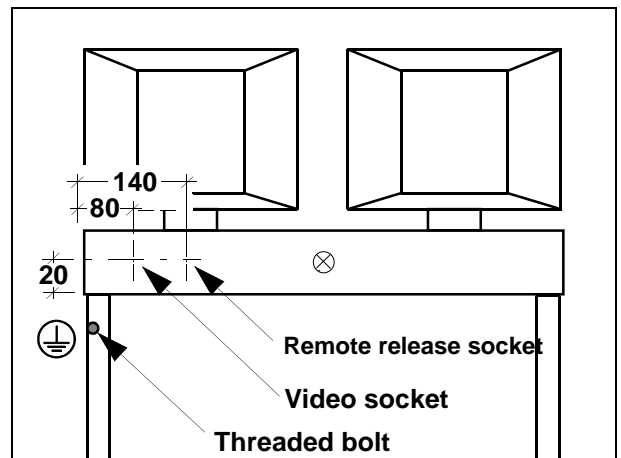
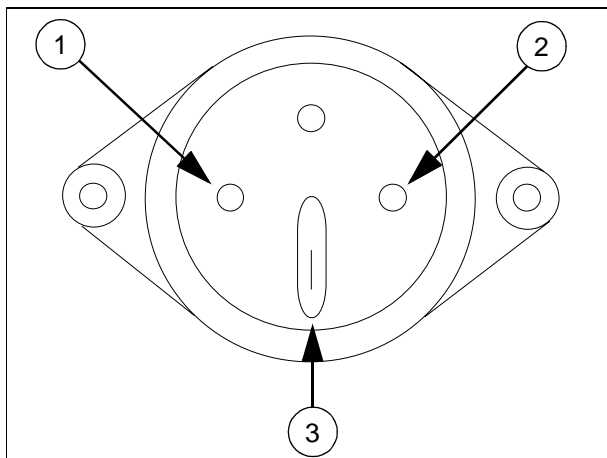

Fig. 2
Fig. 3
- Drill two holes using the dimensions indicated in Fig. 2. The left one should be 17 mm for the video socket and the right one should be 16 mm for the remote release socket.
- Install the video socket according to Fig. 2 in the left hole (isolated).
- Solder the wires to the remote release socket (refer to 1/Fig.3 and 2/Fig.3).
- Solder one end of the protective conductor included with the shipment to the remote release socket (3/Fig.3) and connect the other end to the protective conductor terminal screw (1/Fig.2).